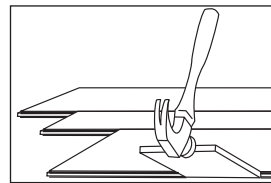

Figure 12
- It may be necessary to align the product with a cut-off piece of scrap as shown (Figure 12 - Keep scrap angle low to avoid edge damage).
- The floating floor underlayment may already have double-sided tape for ease of taping the precut overlapping seams (Figure 12). If a non-adhesive underlayment is used, tape all the seams with the included tape.